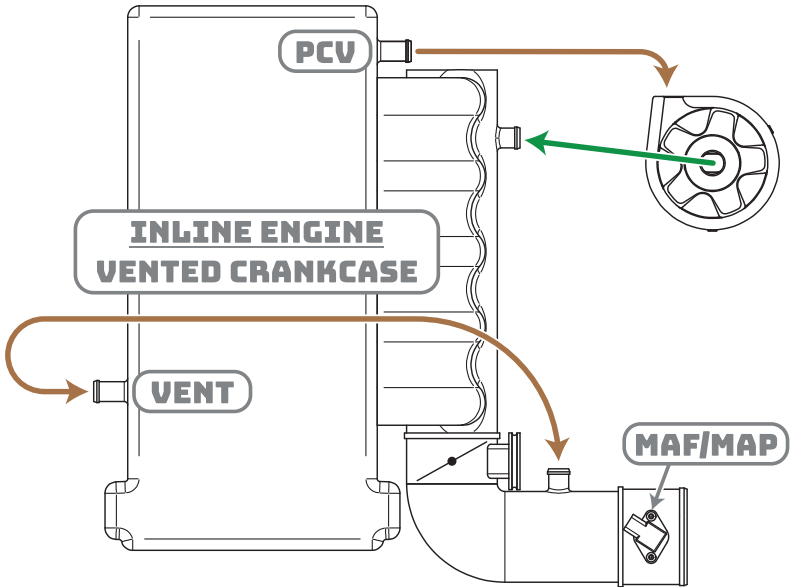
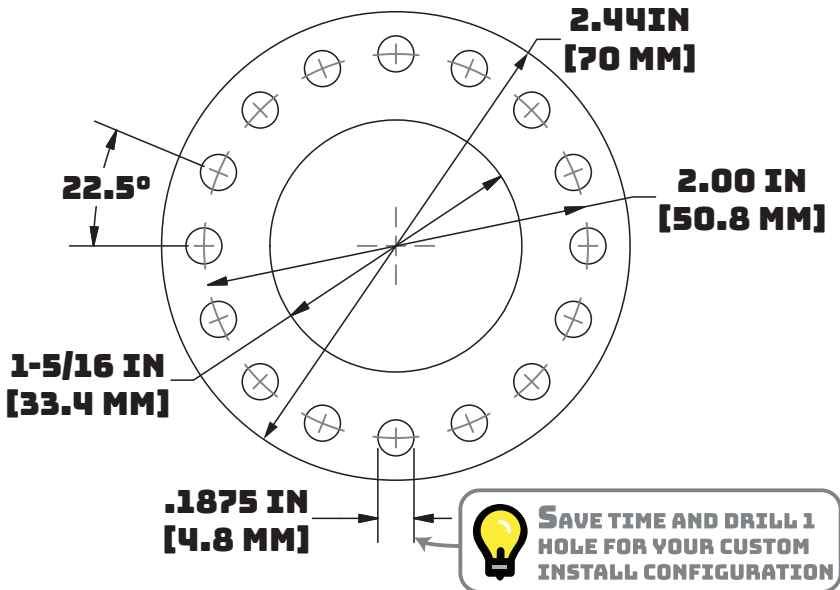

Figure 2 - N/A Inline Engine, Vented Crankcase, PCV Filtered
Figure 13 - CCS Bracket Hole Pattern for DIY Brackets (1:1 Scale)
3. Install the catch can to your vehicle based on the plumbing configurations presented in Figure 2 through Figure 13.